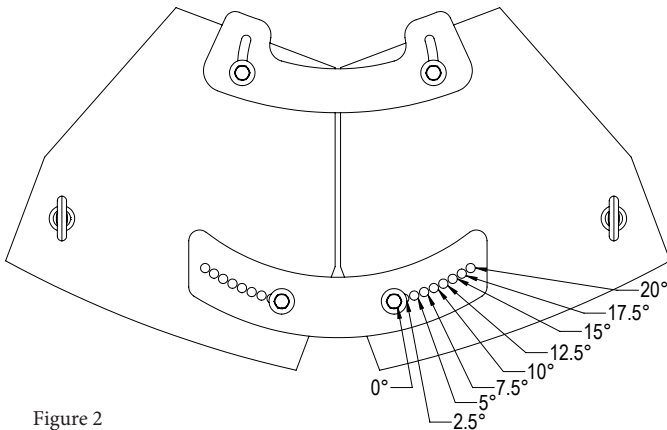

Figure 2
Step 2: Determine the splay angle of the speaker and the holes to use on the front joiner plate (Figure 2).